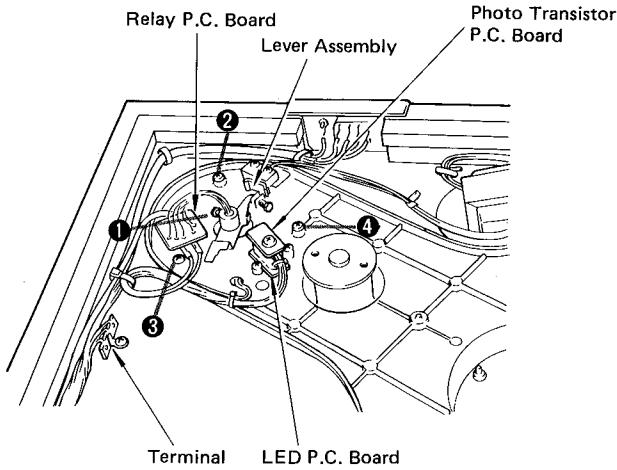

Fig. 3
③ PICK-UP ASSEMBLY REMOVAL
1. Remove the cabinet bottom. (Refer to step ①)
3. Loosen screw ① in Fig. 3 and then remove the lever assembly.
4. Remove screws ② to ④ in Fig. 3 and then remove the pick-up.
- * Be sure to lock the screws ① to ④ with paint after attaching the pick-up assembly.